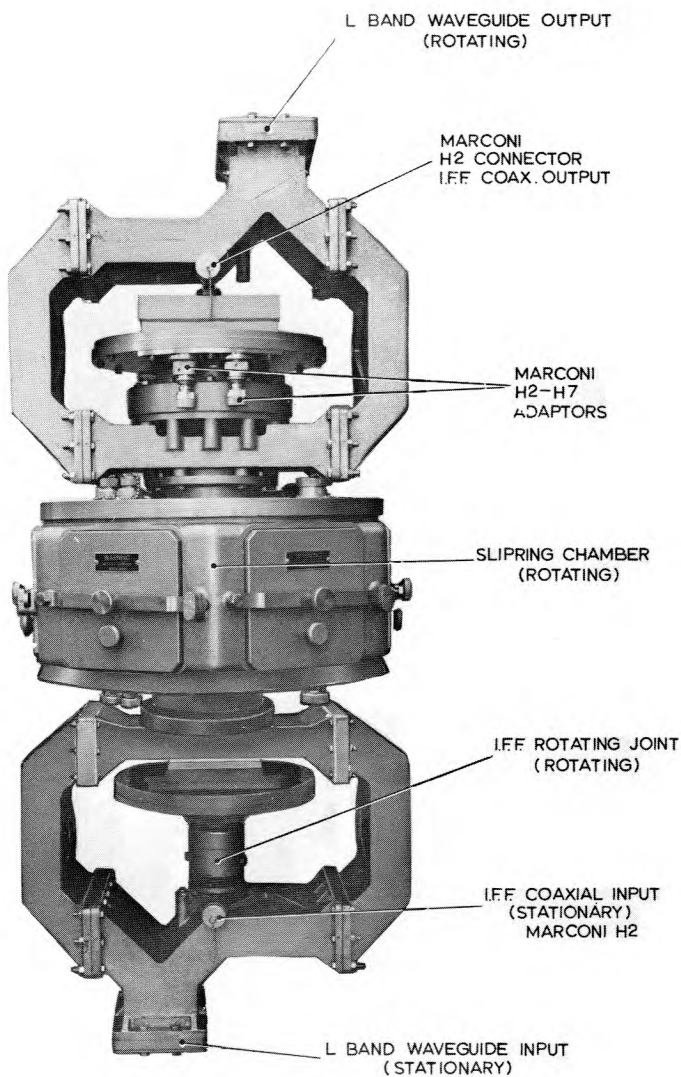

Fig. 1. Coupler, rotary, radio frequency: general view (1)
1. The coupler, rotary, radio frequency (fig. 1 and 2) is a rotating joint having three separate channels, L-band (1215-1365MHz), IFF channel 1 (1020-1115MHz) and IFF channel 2 (1020-1115MHz). The L-band channel carries high transmitter peak power levels and consists of a coaxial rotating joint having symmetrically fed door-knob transitions at either end. The transitions are fed via half-height waveguide sections which combine at an E-Plane splitter into full-height waveguide terminated with rectangular waveguide flanges forming the input and output connections. The IFF channel 2 carries low power levels and consists of a coaxial section concentric with and inside the L-band coaxial section, coupled at each end into reduced height ridged waveguide via small door-knob transitions, and terminated in waveguide to coaxial transitions to the input and output connectors. The IFF channel 1, also carrying low power levels, is coaxial through-out and is taken within the IFF channel 2 coaxial section from a separate coaxial rotating joint attached to the lower, stationary, part of the coupler. A slipring chamber, fitted with six inspection hatches, is built round the central coaxial rotating joint and carries five heavy duty 30A sliprings, fourteen 5A sliprings and five other sliprings which are used to provide two fully screened telephone circuits. All channels of the rotating joint are normally pressurised, and an air bleed from the L-band coaxial section supplies an air blast to the slipring chamber to keep the chamber free of moisture and the pressure slightly above atmospheric. The complete assembly of the coupler, rotary, radio frequency, is bolted to a mounting cylinder (AP115J-0100-1) which also serves as a lifting cradle.
6. General views of the coupler, rotary, radio frequency are shown in fig. 1 and 2. The rotating joint is designed round a triple coaxial line carrying the L-band and the two IFF channels. The L-band inner conductor (which also serves as the outer conductor of IFF channel 2) is a brass tube attached to the lower, fixed, part of the rotating joint; the upper part of this conductor passes through the upper L-band knob with its concentric radial system of quarter-wave r.f. chokes, to the upper IFF 2 door-knob transition and is located in a support bearing held in a large bearing housing which is bolted to the L-band transition casting. The L-band outer conductor, as part of the main bearing and slipping assembly, is split between the fixed and rotating parts, the concentric-wave r.f. choke system being contained within the assembly. The inside parts of the main bearing and slipping assembly, forming the L-band outer conductor, are aluminium alloy castings to which the aluminium alloy L-band door knob transitions are bolted.